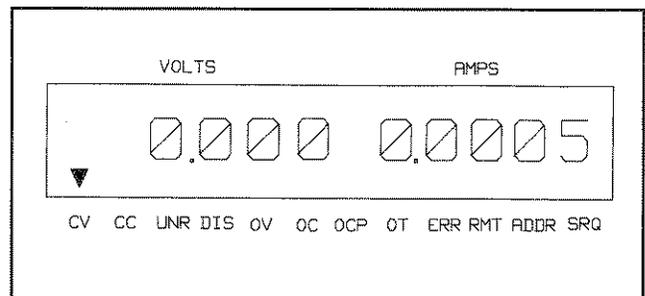

Figure 3-1. Front Panel Display (approx.) Following a Successful Self-Test
When self test is successfully completed, the output voltage and current readings will be about the same as shown in Figure 3-1 and only the CV annunciator will be on. Now your supply is ready to be programmed.
*The number of digits used to display volts and amps vary among models. The examples shown in Figures 3-1 through 3-3 use the HP6632A.*